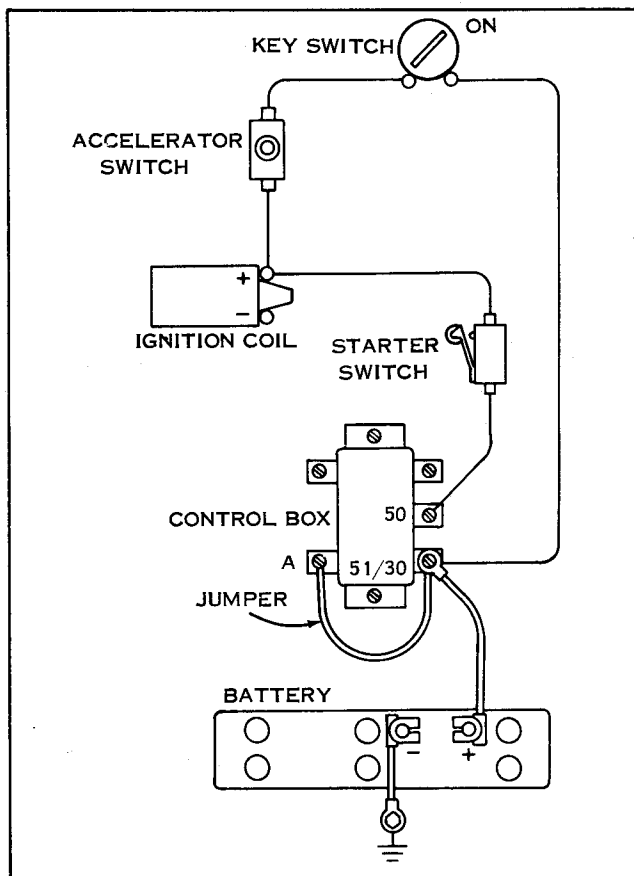

Figure 5E-19A. Step 1
1. Using a short jumper of heavy gauge wire, momentarily touch the ends to control box terminals 51/30 and A. See Fig. 5E-19A. This will by-pass